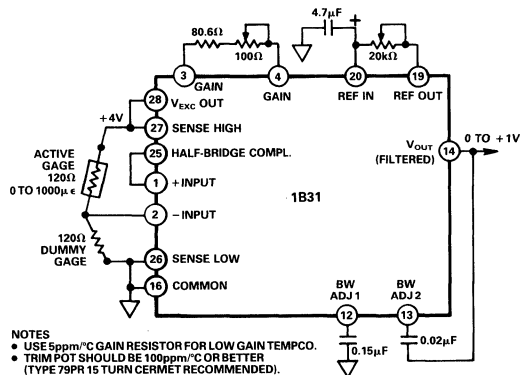

Figure 15. Strain Gage Application Using Internal Half-Bridge
**Strain Measurement:** The 1B31 is shown in a strain measurement system in Figure 15. A single active gage (120 $\Omega$ , Gage Factor = 2) is used in a bridge configuration to detect fractional changes in gage resistance caused by strain. An equivalent resistance